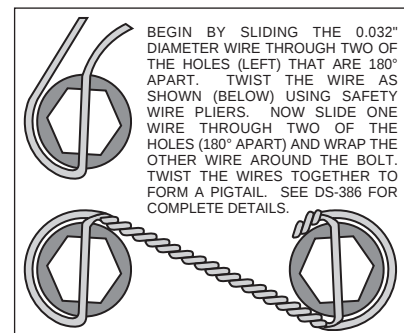

Figure 3. Safety Wire Diagram
- With the larger I.D. side of the rotor (4) facing away from the hat (5), bolt the rotor (4) to the hat (5) through the backside of the rotor using washers (6) and bolts (7). Using an alternating sequence, apply red *Loctite*® 271 to the threads and torque bolts to 155 **in-lb**. For an added measure of security, the bolts may be safety wired using standard 0.032 inch diameter stainless steel safety wire as shown in Figure 3. Please refer to Wilwood's data sheet DS-386 (available at www.wilwood.com/Pdf/DataSheets/ds386.pdf) for complete safety wire installation instructions.